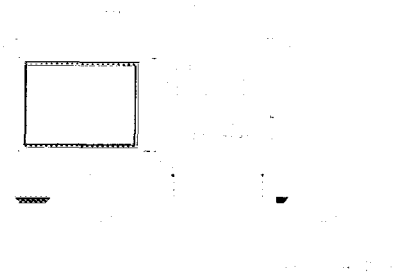

Figure 4-29. Test Port 1 Input Impedance Test Setup
- 27** Connect the equipment as shown in Figure 4-29.